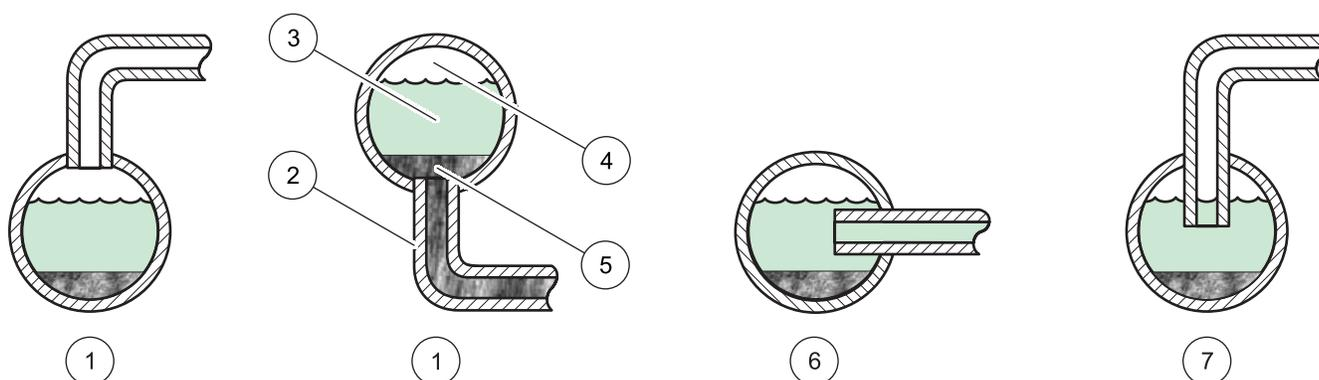

Figure 11 Sampling techniques
- Install sample line taps into larger process pipes to minimize the chances of ingesting sediment from the pipe-line bottom or air bubbles from the top. A tap projecting into the center of the pipe is ideal. Figure 11 shows both good and poor methods of installing a sample tap.